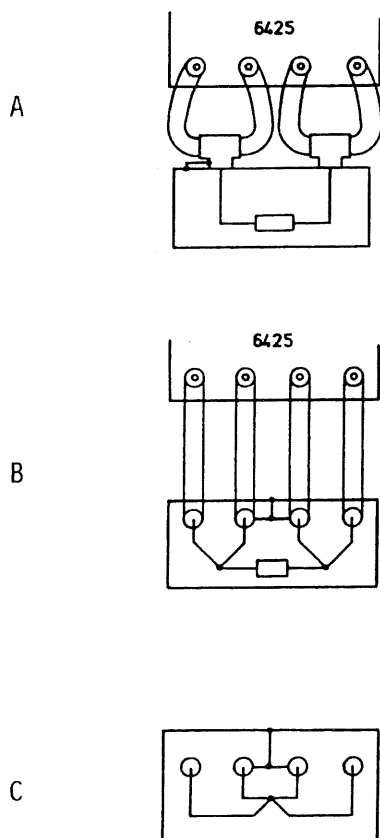

Fig. 4.2 Screened Standards
4.10 Standards      Screened, 4-terminal Standards terminated in four BNC connectors. See Fig. 4.2 for details of wiring. Screens isolated from Ground.
Notes on Standards (see Fig. 4.2)